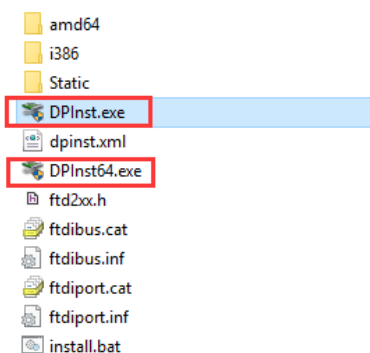

Fig. 3.2 Install DPInst.exe or DPInst64.exe
- Please open the folder *Prerequisites/Drivers/FS Spectrometer Driver*. If the OS is 32 bit, please install DPInst.exe. If your system is 64 bit, then DPInst64.exe should be installed. As shown in Fig. 3.2.